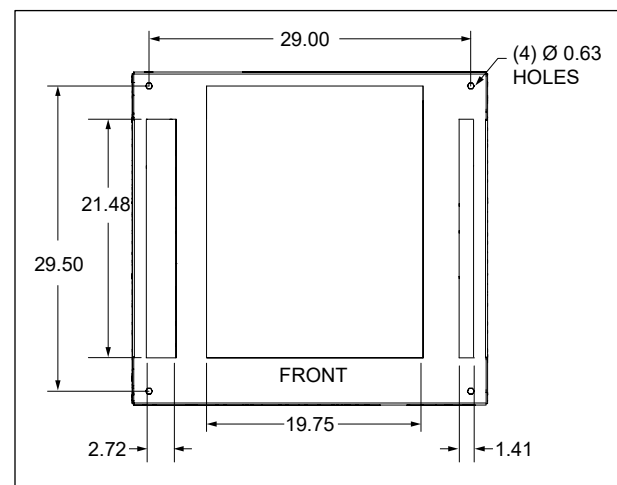

Figure 5 Mounting Hole Dimensions (in inches)
- Figure 5 shows the required conduit openings and mounting hole dimensions for entering/mounting the bottom of the CUBE. Use these dimensions when designing the pad.